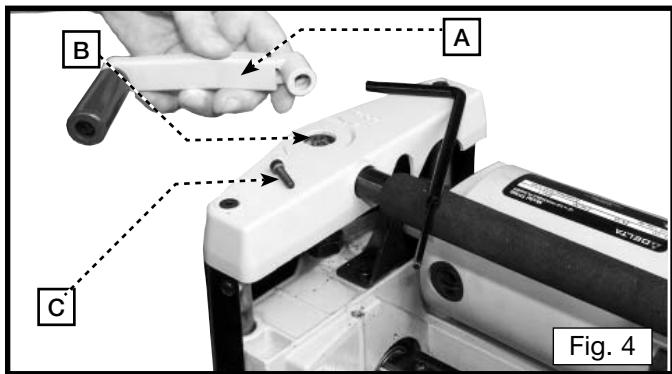
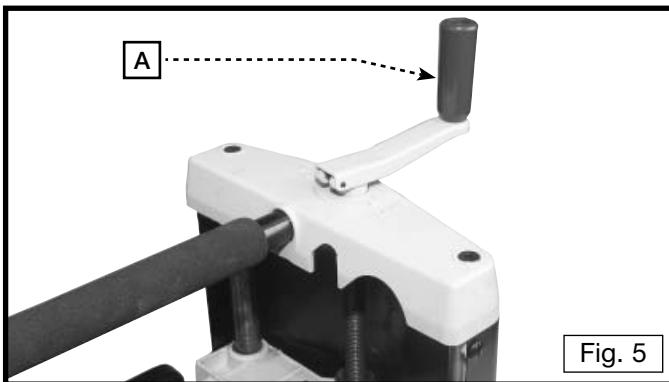

Fig. 4
Fig. 5
Attach the raising and lowering handle (A) Fig. 4 to the shaft (B) and fasten in place with M5x20mm screw (C). **NOTE:** Ensure that the flats of the handle and the flats on the shaft are aligned. Flip handle (A) upward as shown in Fig. 5.